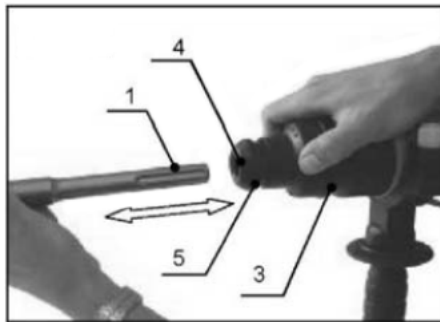

Fig. 3
2. Pull back the locking sleeve (item.2. Figure 3)
3. With the simultaneous rotation of the tool in the tool, enter the slot (Item 4. Figure 3) until it stops.
6. Check for damage dust cover (item.5. Figure 3).
To remove the tool take away the locking sleeve (Item.2. Figure 3) back and pull out the tool.